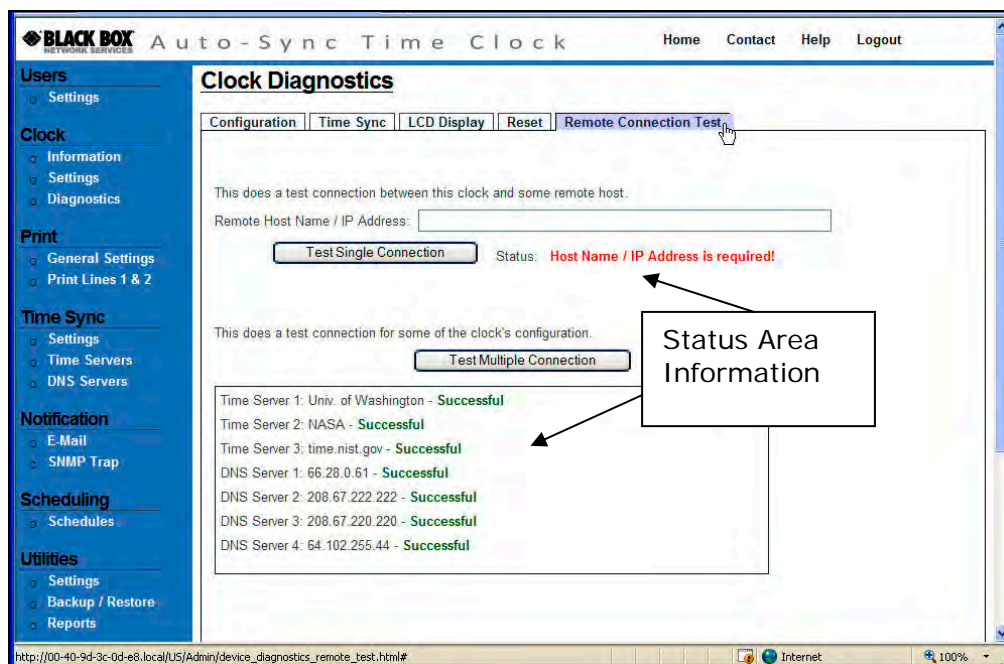

Figure 6-6. Clock Reset.
1. Click on the **Diagnostics** link under **Clock**, and the **Clock Diagnostics** screen will appear. Then click on the **Remote Connection Test** tab and the Remote Connection Test screen will appear (see *Figure 6-6*).